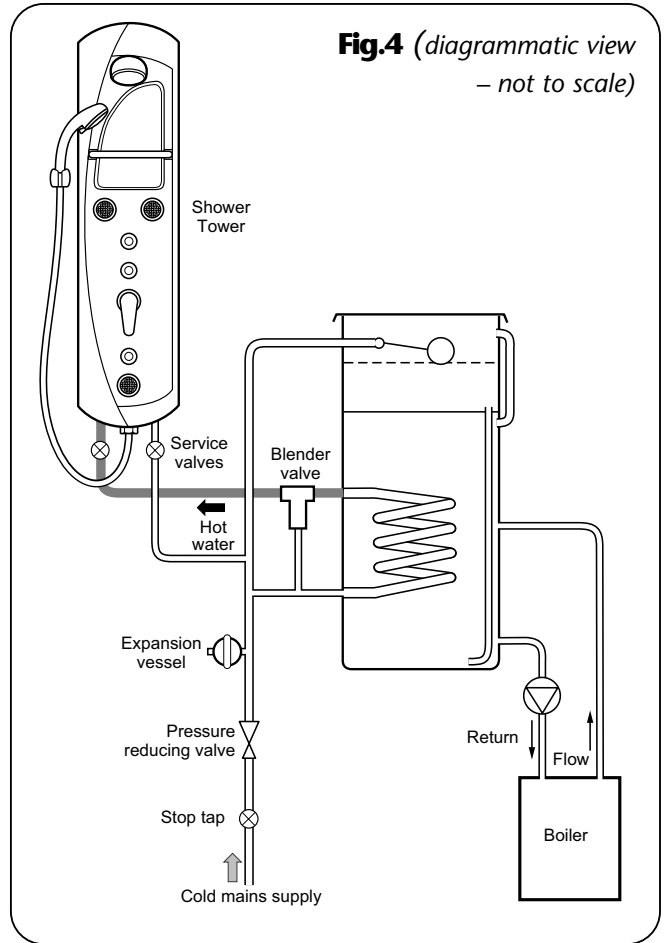

Fig.4 (diagrammatic view – not to scale)
c) High output thermal store systems (fig.4)
An expansion vessel (0.16 litres) as shown in **Fig.4**, **MUST** be fitted and regularly maintained, to ensure the unit is not damaged by excess pressures. This may already be installed externally or internally within the thermal store (check with thermal store manufacturer).